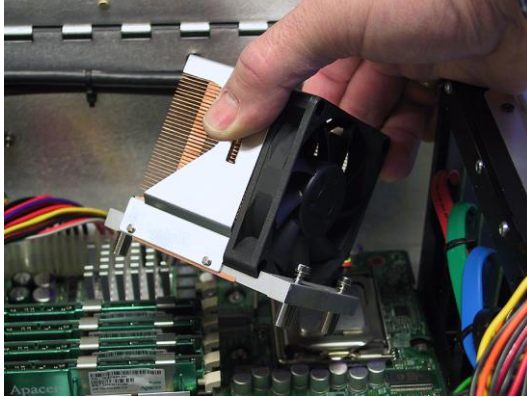

Figure 5-83
- 5) Figures 5-83 and 5-84 illustrate the removal of the second CPU Fan Assembly.